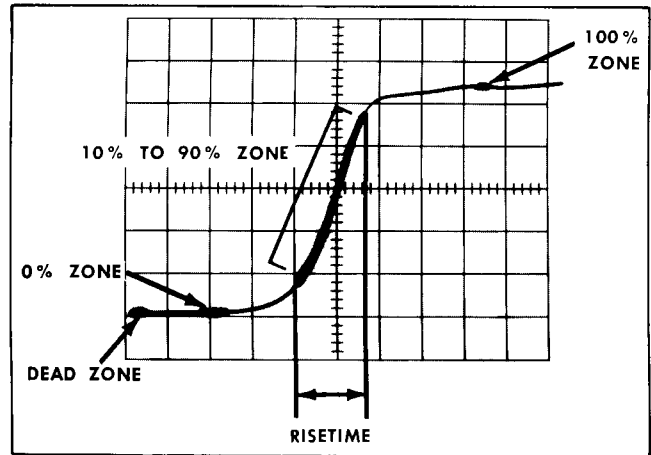

Fig. 2-3. Risetime measurement.
5. Read the risetime directly from the readout. This is the risetime of the pulse (see Fig. 2-3).